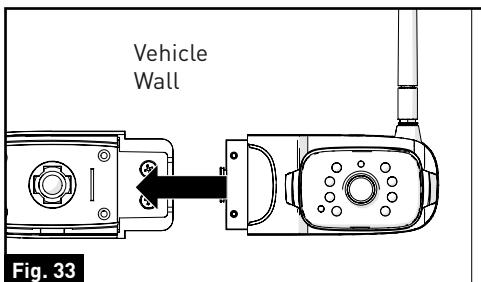
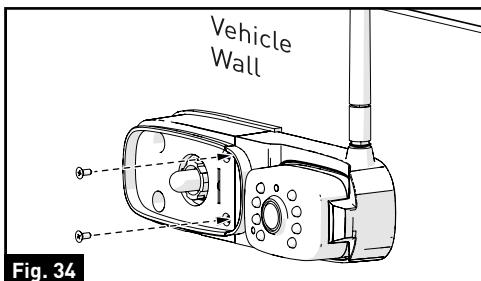

Fig. 33
Fig. 34
6. Insert the front or rear camera into the traffic light base and secure with the two flat self-tapping screws provided. [Fig. 33 and Fig. 34]